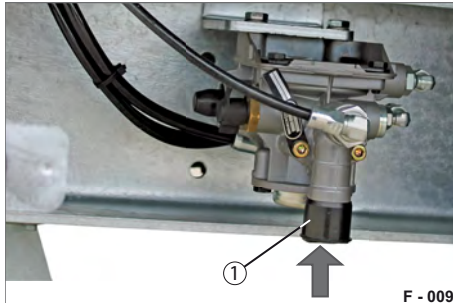

Fig. 8 Releasing the service brake
- Press the release valve (Fig. 8/1).